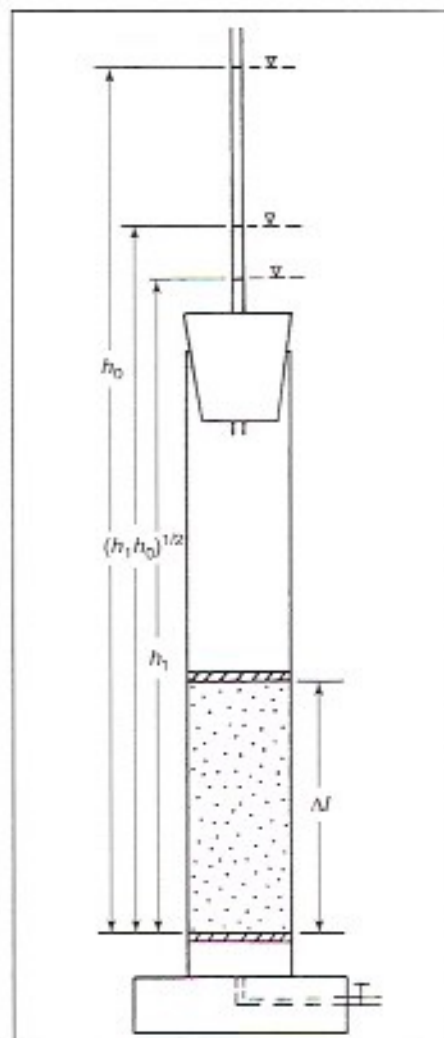

Figure 7.3—Falling-head permeameter.
2. Refer to Figure 7.3. You will measure the drop in head over time while the head continuously decreases across the sand column.